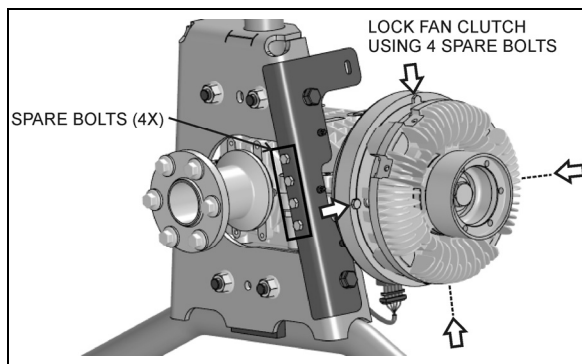

FIGURE 31: MECHANICAL LOCKING
3. Unscrew and remove the 4 spare M6x12 hex bolts screwed to the angle on the fan gearbox mounting support (Fig. 31).